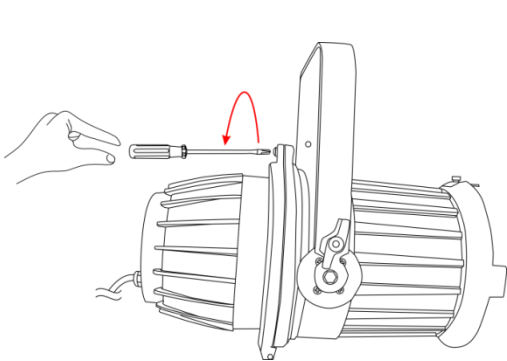

Fig. 03
- 02) Insert a crosshead screwdriver into the screws and turn left (Fig.03).